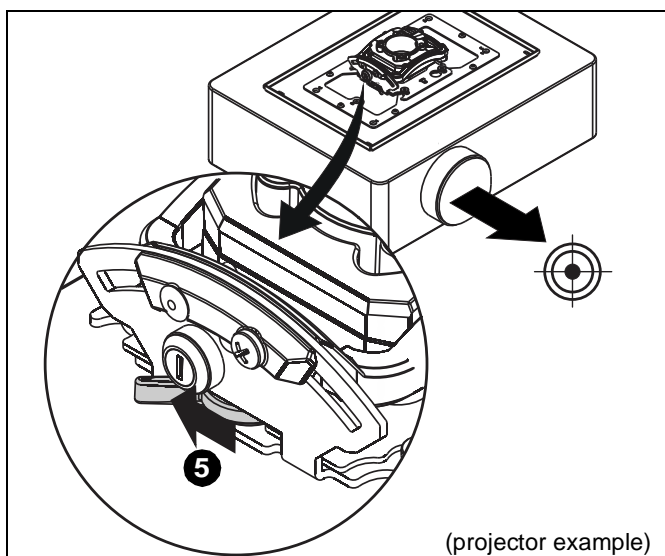

Figure 6
5. Move locking lever to "Locked" position. (See Figure 6)